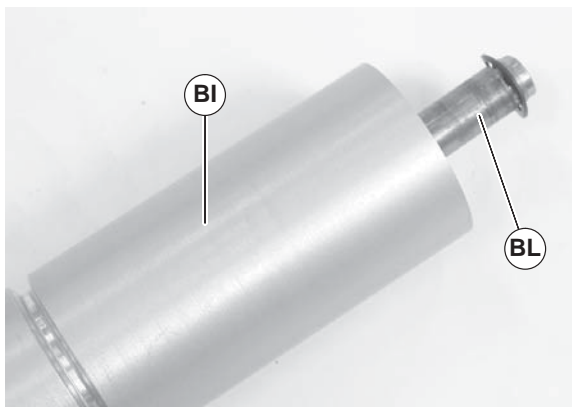

Figure 49
6. Slide the shaft assembly (Figure 49, item BL) out of the pulley (BI).